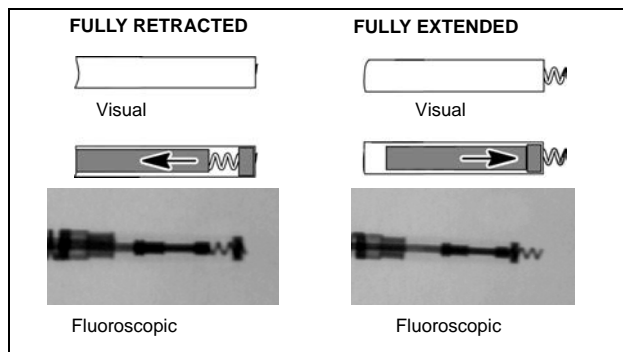

Figure 14. Possible views of the helix electrode.
2. Apply forward pressure to the lead body to position the distal electrode against the desired fixation site and rotate the fixation tool *clockwise* to affix the distal electrode helix into the heart wall. View the radiopaque markers under fluoroscopy to identify when the fixation helix is fully extended. Full extension is achieved when the radiopaque markers are joined and the fixation helix is extended outside the distal fluoroscopy markers (Figure 14). Refer to the Specifications section on Page 35 for the expected number of turns to extend or retract the helix.